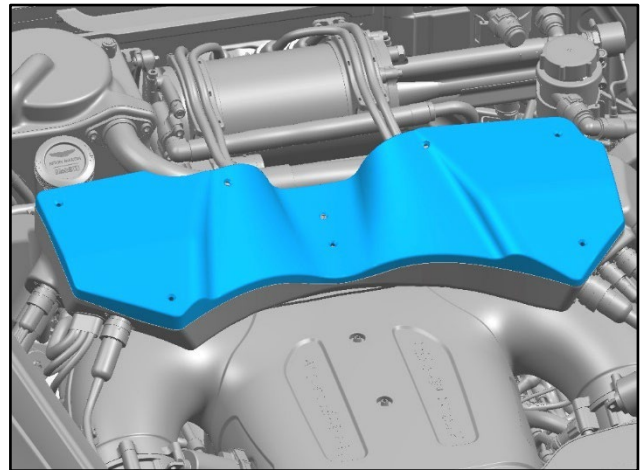

Figure 6
6. Remove the fuse box lid (refer to Figure 6).